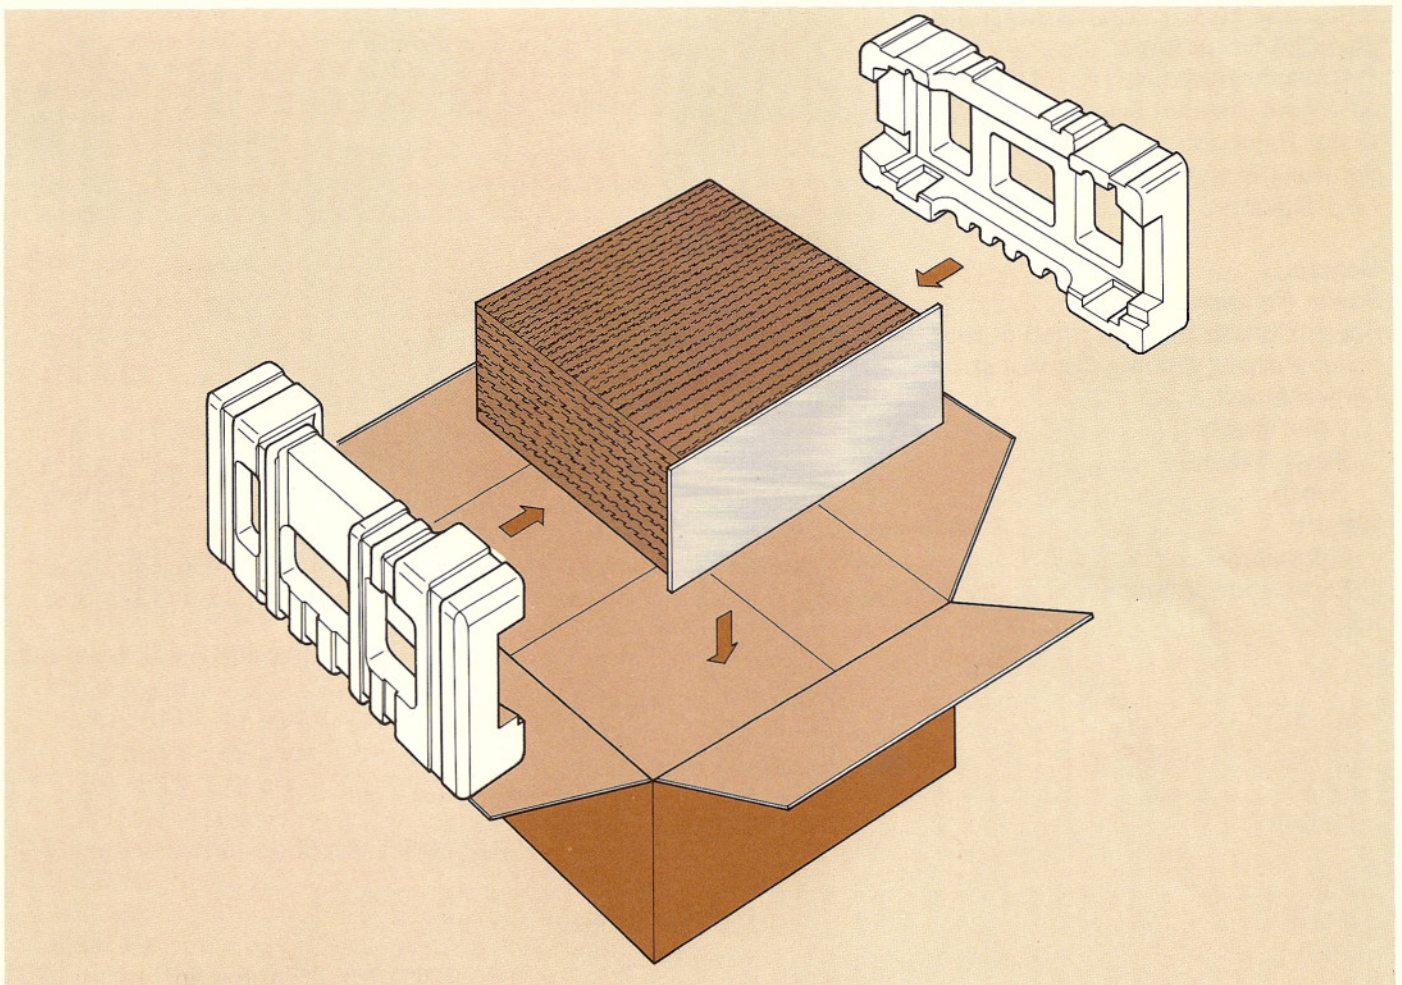

Figure 8. Packing Instructions
- b. Pack the unit carefully, using the original material as shown in Figure 8.